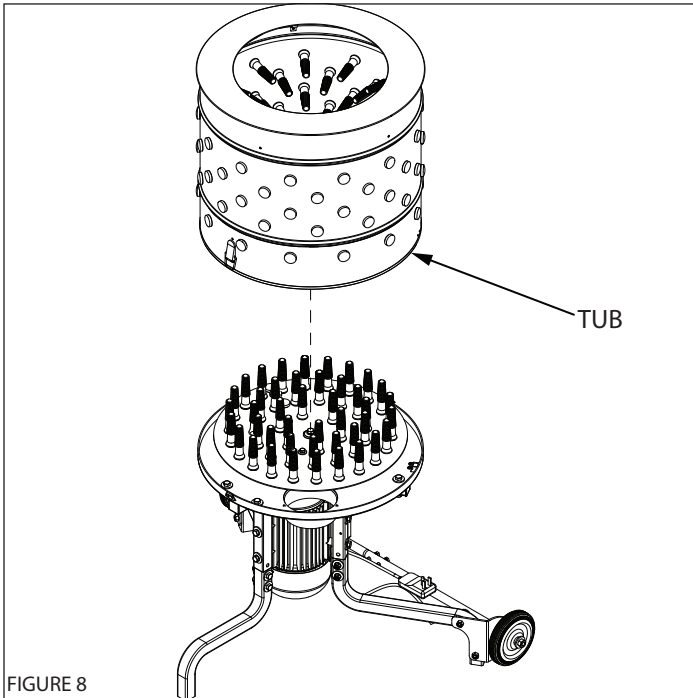

FIGURE 8
**NOTE: Magnetic read switch in feather pan MUST align with magnet in tub. Align arrow label on tub to arrow on feather pan. (SEE FIGURE 8)**